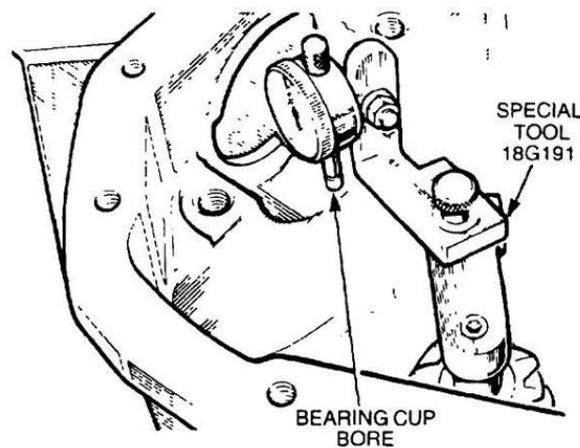

Figure 243 Measuring the Pinion Shaft Height
- h. Position the magnetized base, of the dial indicator special tool, on the pinion shaft end-face and rest the stylus on the lowest point of one differential bearing cup bore (Figure 243). Note the dial indicator deviation from the zero setting.